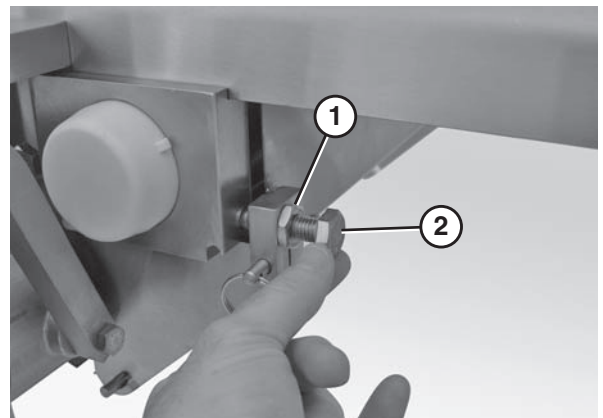

Figure 55
1. Loosen the guide plate nuts (**Figure 55, item 1**) on the infed side of the center drive assembly.
2. Tighten the guide plate bolt (**Figure 55, item 2**) to move the belt away from that side of the conveyor.